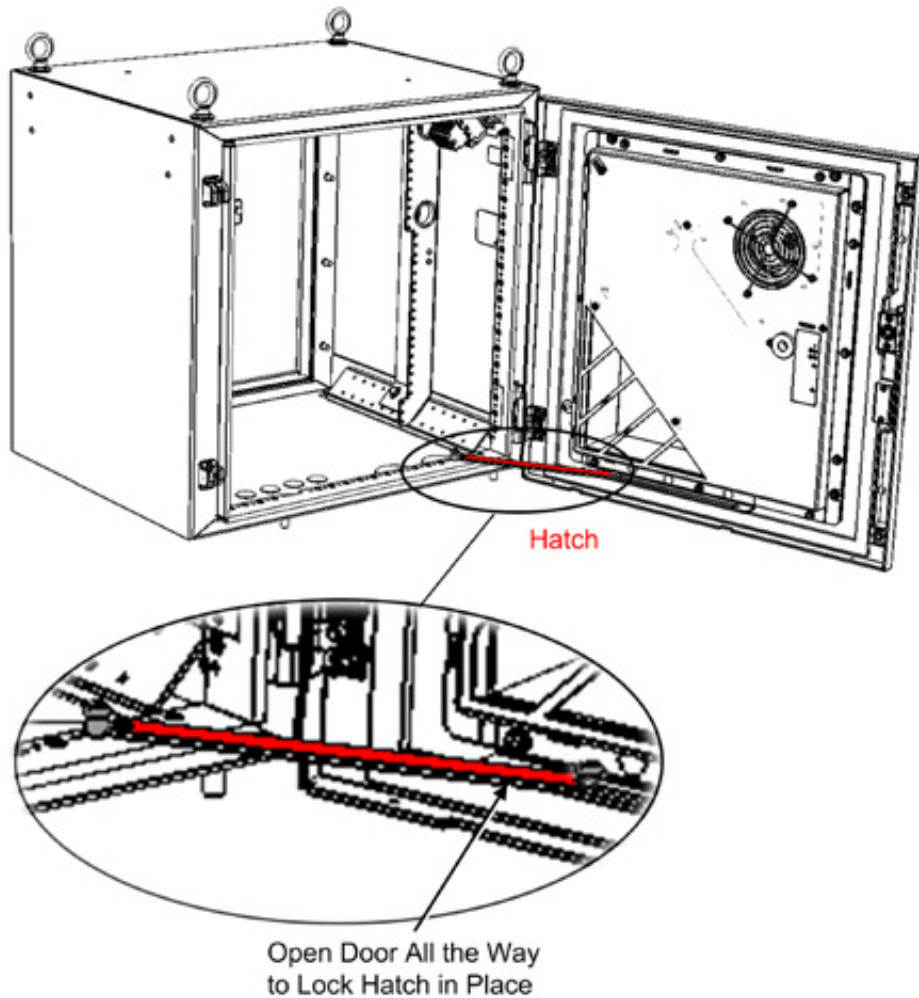

Figure 6-14. Opening Cabinet Door and Locking in Place
**ATTENTION!** Make sure that the door hatch locks into the door rail in order to avoid closing of door while installing the chassis. See Figure 6-14.